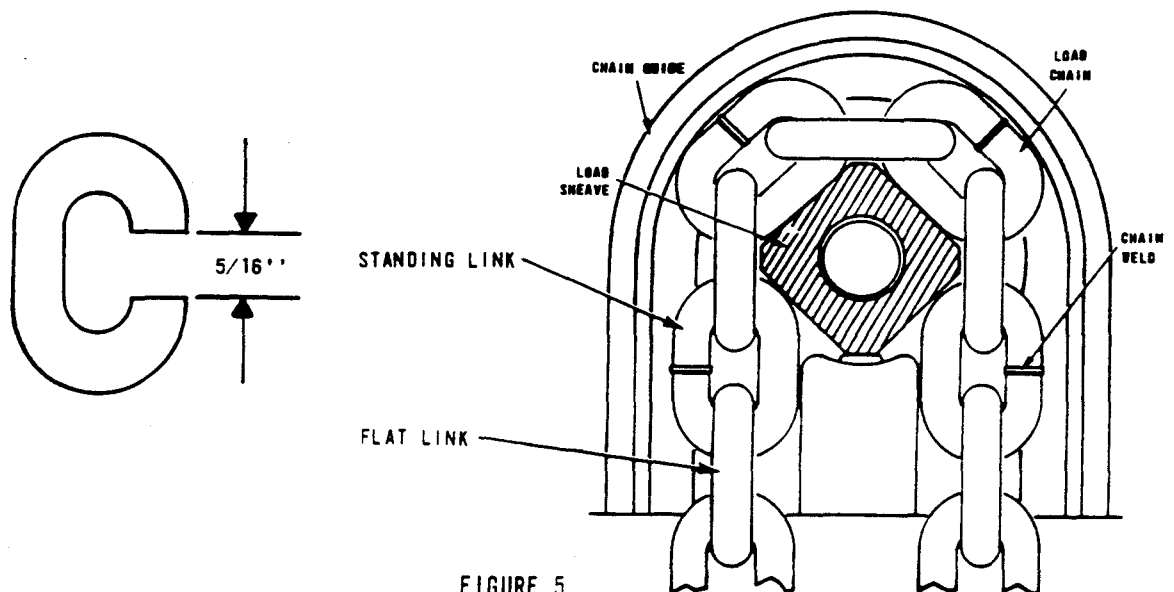
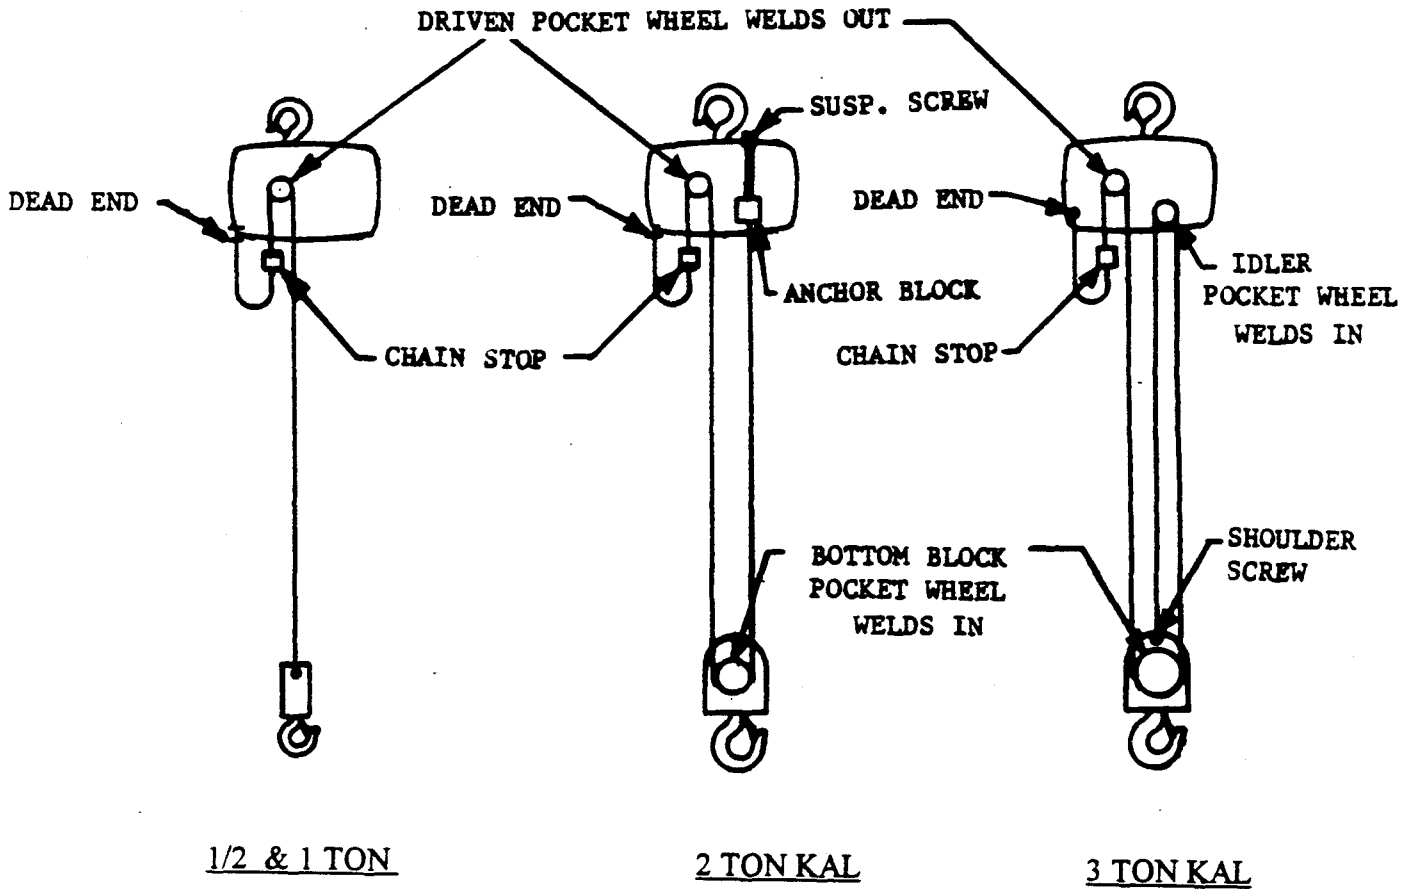

FIGURE 5.
FIGURE 6
8. Chain Guide And Pocket Wheel: If the load chain is worn or stretched and requires replacing, also examine the pocket wheel and load chain guide and stripper. If these parts are worn they should be replaced to avoid damaging the new load chain and jamming of the chain. New link chain should be installed with weld on vertical link as shown in Figure 5 page 19.
- (e) Connect the new chain to the old using the notched link. Be sure the welds of the standing links (links turned perpendicular to the sheave) face away from the driven pocket wheel. On 1/2, 1 & 2 ton units the first link of the new chain must go on flat. On 3 ton units first link of new chain must go on standing. Use 2 notched links if necessary. See Figure 5 above and Figure 6, Page 18.
- (d) With the unit inverted, feed the chain straight into the guide rotating the pocket wheel shaft by hand. Be sure the welds of the "standing" links face away from the sheave. See Figure 5, page 17.